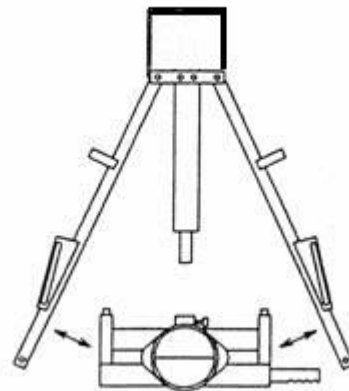

Figure 6.0 – Expand 'A' Frame & Remove
- 2.5 The hydraulic hose can now be disconnected from the Hydraulic Hand Pump and then the 'A' Frame can now be expanded and disassembled from the Bottom Beam set (Refer to figure 6.0).
- 3.5 Allow the Top Beam to fully retract. The Bottom Beam can then be removed and then the 'A' Frame assembly can be taken away from the pipe (Refer to figure 6.0).